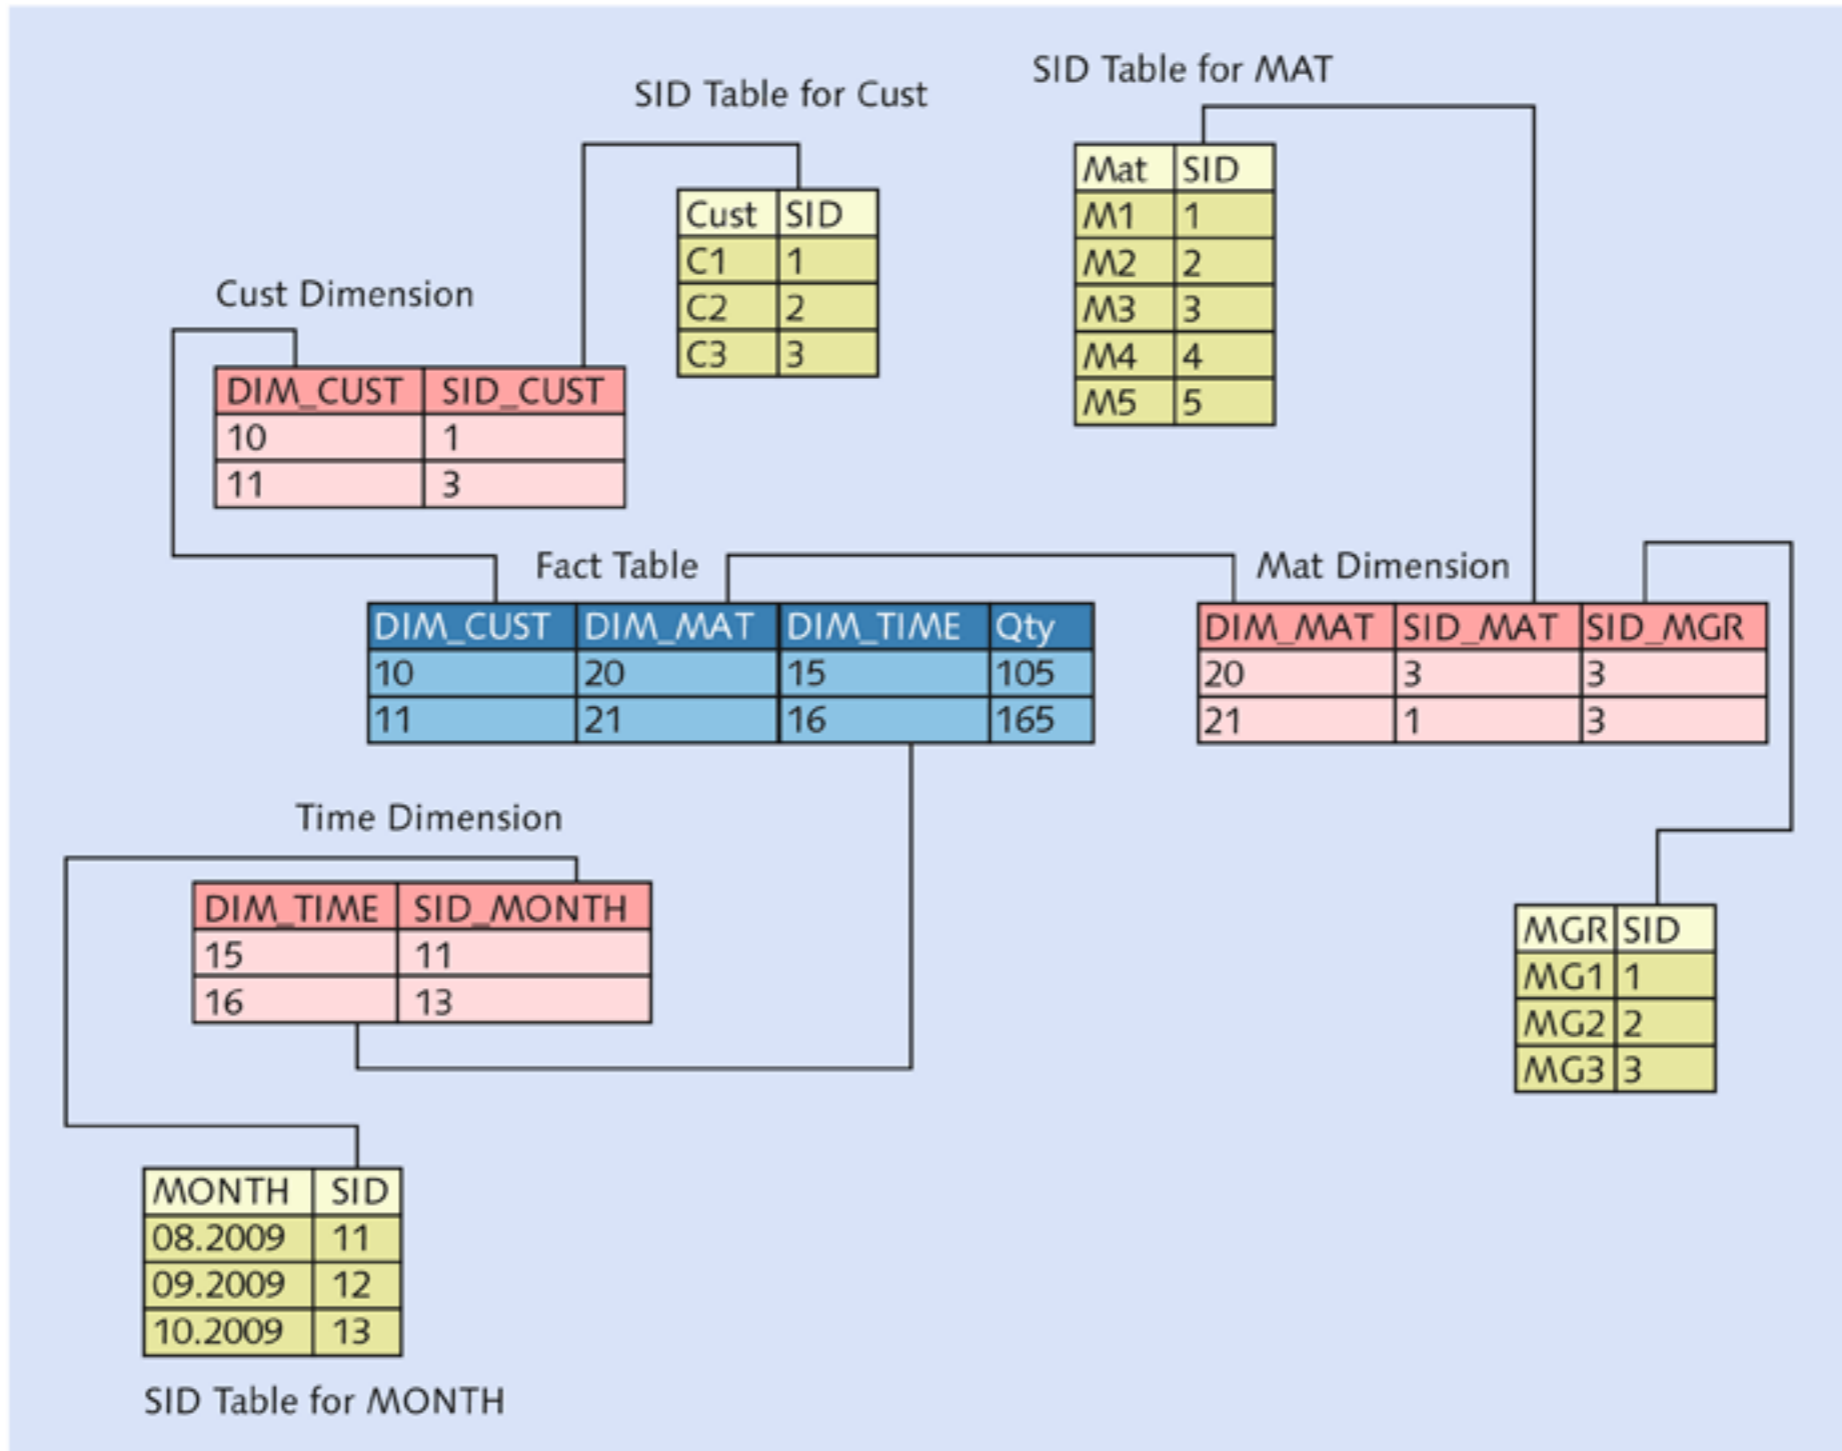

Figure 5.6 Extended Star Schema: Relation Between DIMs and SIDs
- ▶ The customer master data is loaded to the customer InfoObject, and the SIDs for the three customers (C1, C2, and C3) are 1, 2, and 3, respectively. This is shown in the SID table for CUST in Figure 5.6.
- ▶ The material master data is loaded to the material InfoObject, and the SIDs for the five materials (M1, M2, M3, M4, and M5) are 1, 2, 3, 4, and 5, respectively. This is shown in the SID table for MAT in Figure 5.6.
- ▶ The material group master data is loaded to the material group InfoObject, and the SIDs for the three material groups (MG1, MG2, and MG3) are 1, 2, and 3, respectively. This is shown in the SID table for MGR in Figure 5.6.
- ▶ The time granularity for this InfoCube is *month*. The time master data is generated by the system, and SIDs for all of the month values are generated and available. The SIDs for the three month values (08.2009, 09.2009, and 10.2009) are 11, 12, and 13, respectively. This is shown in the SID table for MONTH in Figure 5.6. (For high-level analysis, you can also assign the quarter and year characteristics to the time dimension. These are derived directly from the month characteristic.)
When this data is loaded, it's stored in the InfoCube model, as shown in Figure 5.6. Again, dimension tables save the data of the characteristics values shown in Table 5.1, but instead of storing the actual characteristic values, the dimension tables store the SID values. For example, the first record in the transaction data has the customer value listed as C1, but the dimension table stores the SID. Because only one characteristic is assigned to the CUST dimension, for each unique value of the customer SID, the system creates a DIM ID for it in the dimension table. In Figure 5.6, DIM_ID 10 is generated for SID_CUST = 1. The key of the customer dimension table is DIM_CUST.
Finally, the fact table stores key figures associated with the InfoCube. For this example, the values for the quantity key figure (QTY in Figure 5.6) are stored in the fact table, along with the DIM_IDs from all of the dimensions.